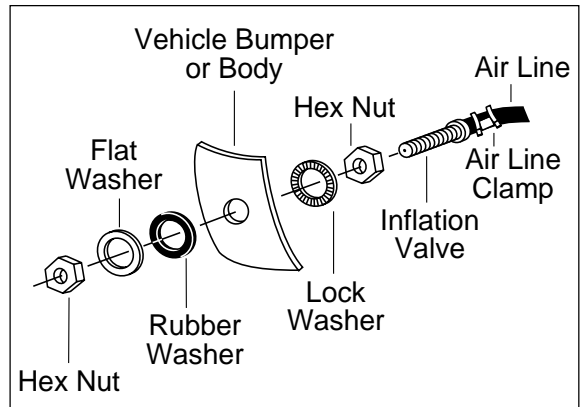

Figure 6
- l. Drill a $\frac{5}{16}$ " hole for inflation valve and mount as in illustration (Figure 6). The rubber washer is for an outside weather seal.
- h. Drill $\frac{5}{16}$ " hole for inflation valves and mount as illustrated. The rubber washer is for an outside weather seal (Figure 6).